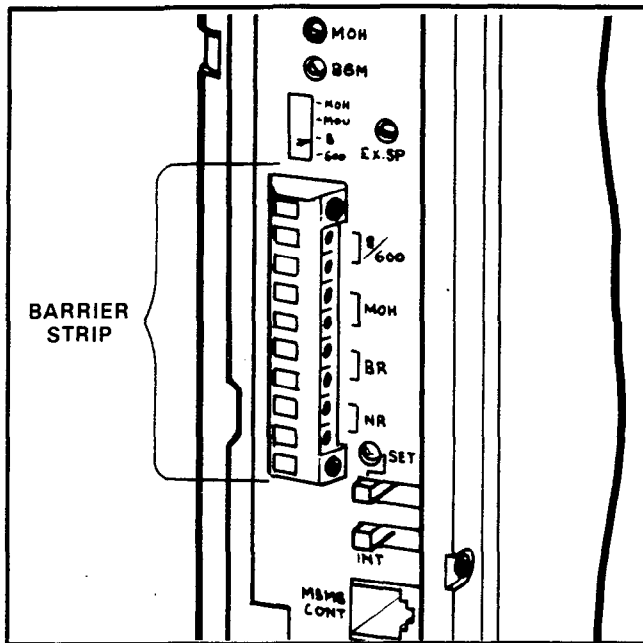

FIGURE 35—TERMINAL STRIP
10.01 All connections to miscellaneous equipment are made via the barrier strip mounted on the left side panel as shown in Figure 35.